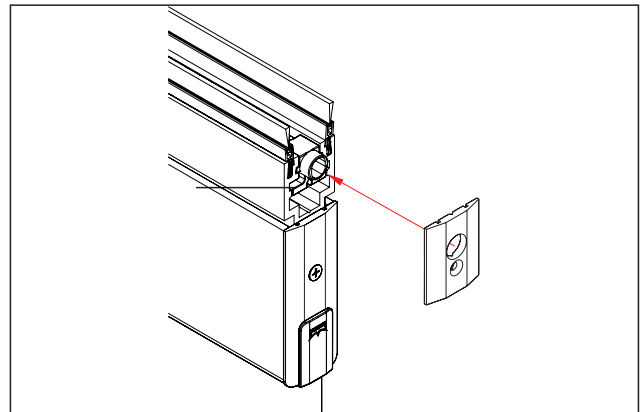

Fig. 39 Placing the cover
8. Place cover on combination fixing block (Fig. 39).